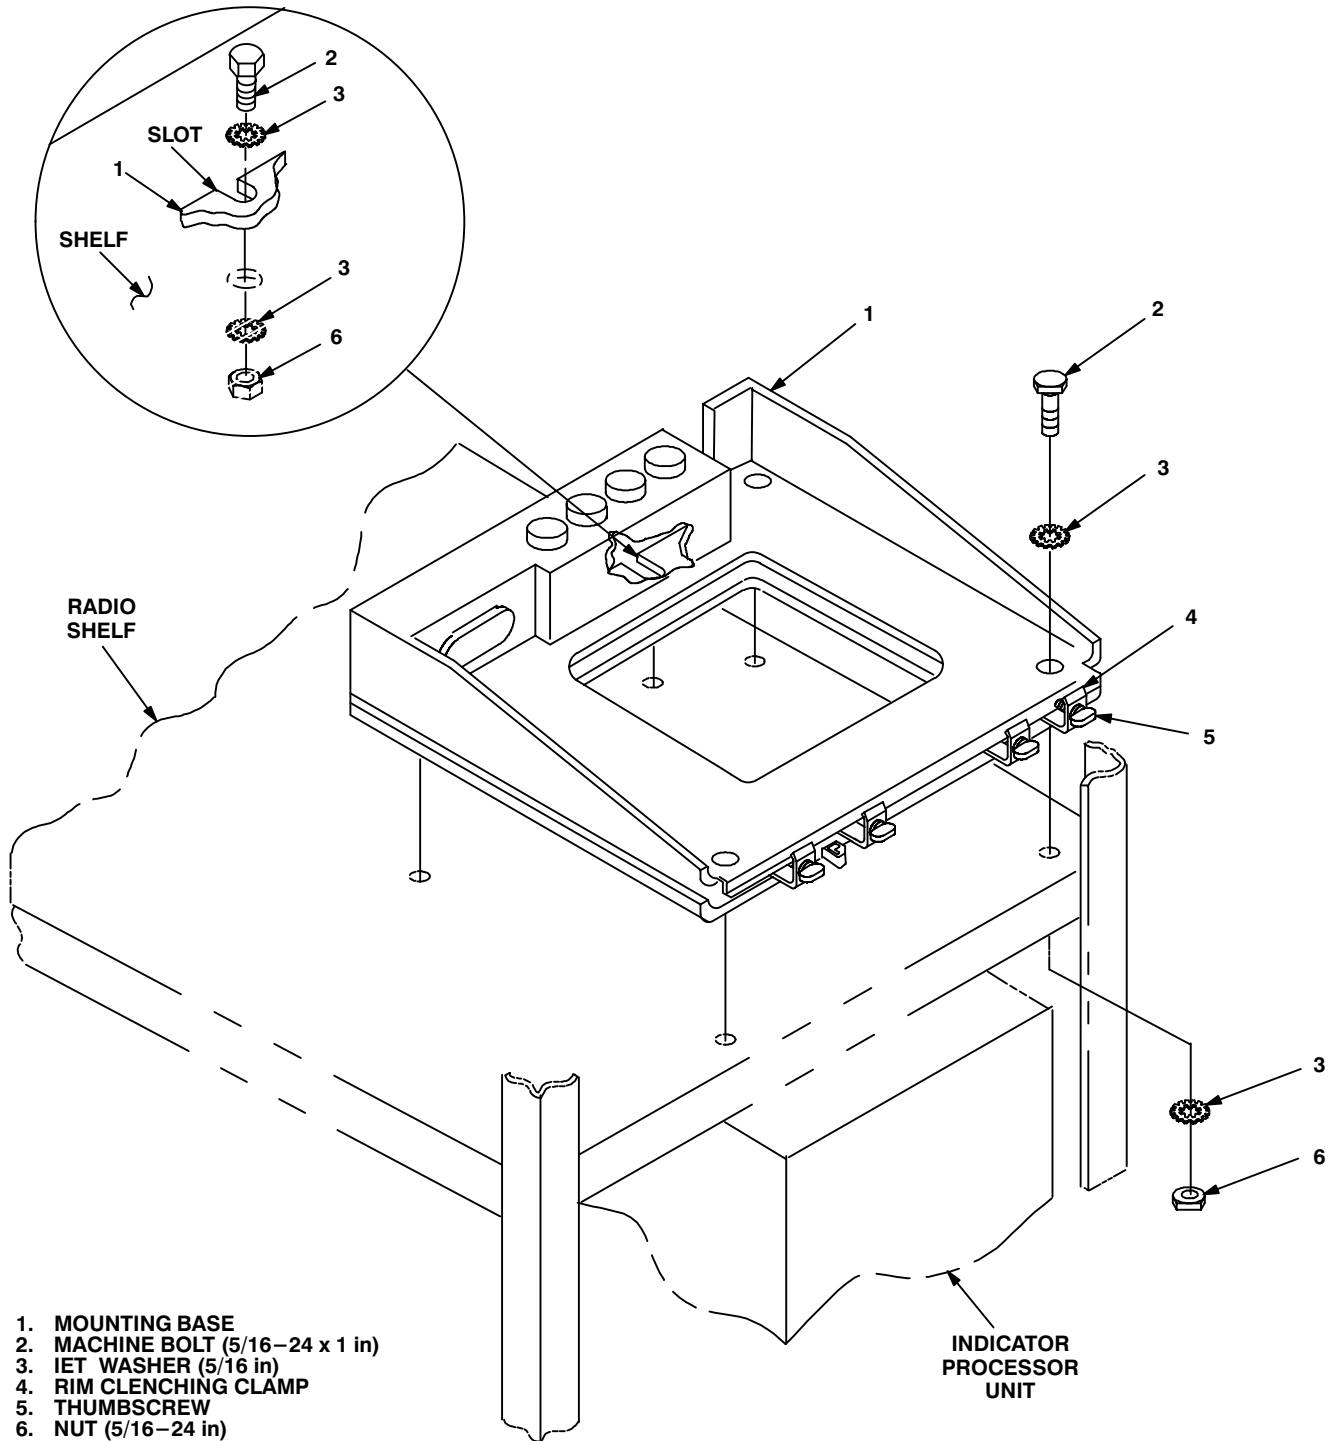

Figure 5-4. Mounting Base Installation: Equipment Rack
5.2 Installation of Mounting Base, Electrical Equipment MT-6352/VRC (mounting base). Remove and retain attaching bag of 5/16 in mounting hardware for installation. To insure good electrical grounding, any rust, corrosion or paint around mounting holes in radio shelf should be removed before installing the mounting base. See figure 5-4 and perform the following steps.
f. Multiple angle bracket (3), radio shelf and J-box.	Remove a 1" square area of paint around holes drilled in step a. Remove a 1" square area of paint on the underside of multiple angle bracket (3) around mounting holes that mate with holes drilled in step a. Remove a 1" square area of paint around six mounting holes in multiple angle bracket (3) and six mating mounting holes in J-box. Clean the paint removed area and apply a thin coat of conductive anti-seize compound.	Tools: Electric grinder or equivalent.
g. Two cap screws (7), four IET washers (6) and two nuts (5).	Install and secure to multiple angle bracket (3) and radio shelf.	Tools: 7/16 in socket and 7/16 in open/box wrench.
h. J-box.	Align holes with matching hole pattern in multiple angle bracket (3).
i. Six pan-head machine screws (1) and six IET washers (2).	Install and secure to J-box and multiple angle bracket (3).	Tool: Phillips screwdriver.
j. Indicator processor unit (removed in section 5.2, step a).	Reinstall to radio shelf. See Figure 5-4.